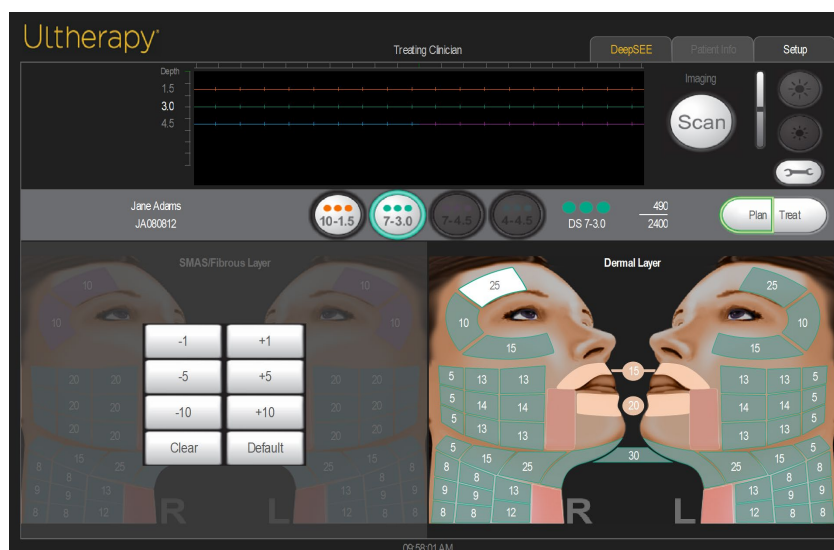

Figure 7.12, Toggle keyboard appears on the left allows for the customization of the transducer line count
5. To adjust the treatment line count select the translucent color region. A toggle keyboard will automatically appear on the screen to allow the user to adjust as shown in Figure 7.12.